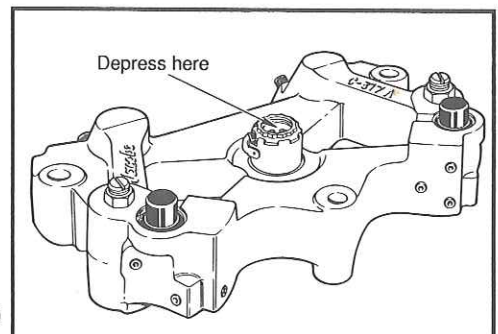

Fig. 39
2. Depress and release the engine brake solenoid disc several times to allow the housing to be filled with oil. See Fig. 39.